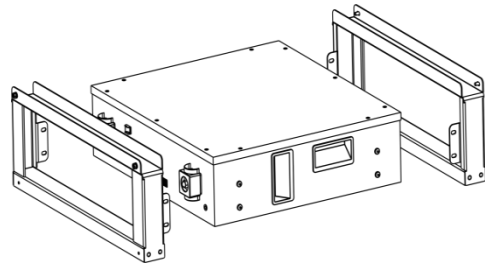

Figure3-2
1. BX51100 brackets The BX51100 bracket is shown before installation as shown in figure3-2.